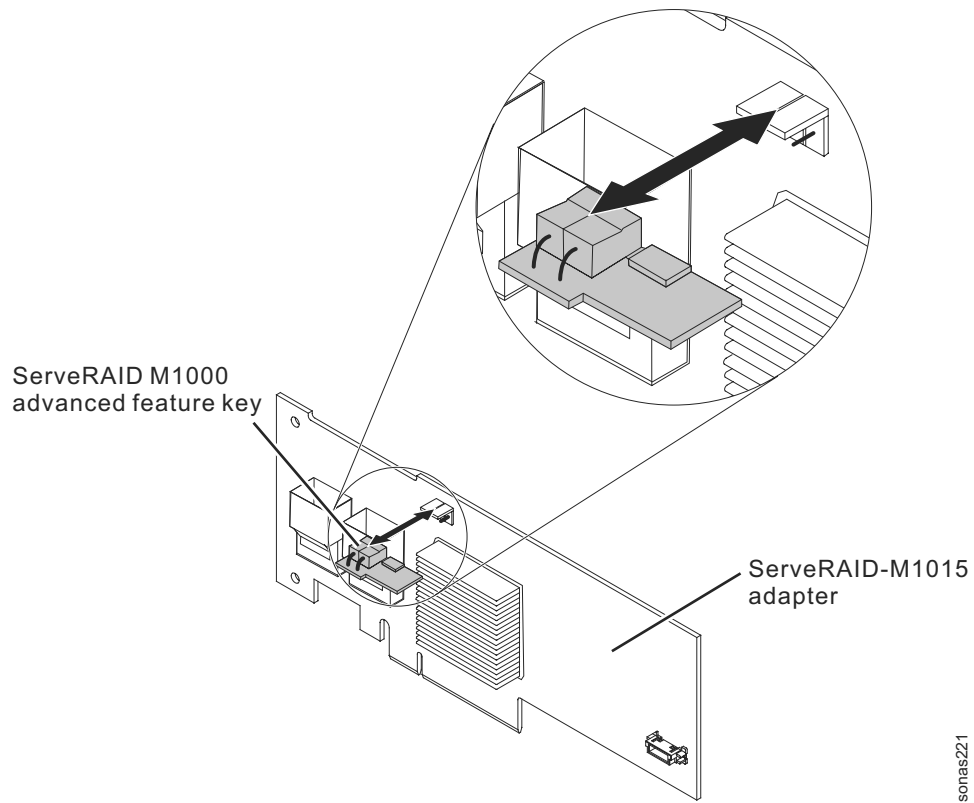
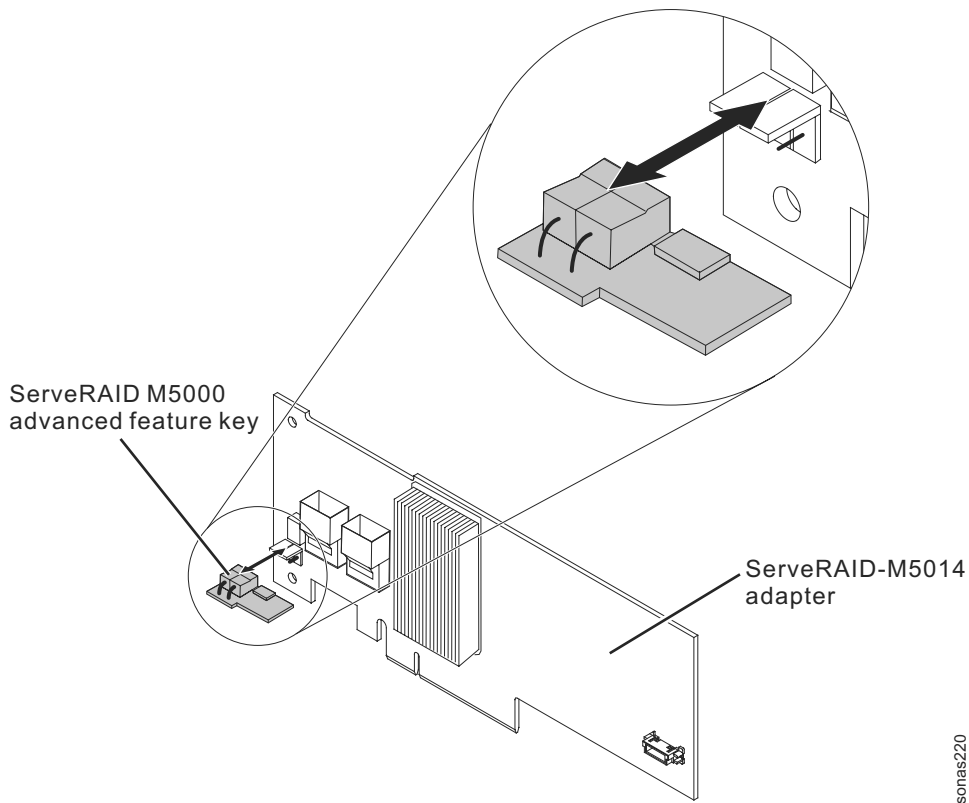

Figure 30. ServeRAID M1000 advanced feature key and M1015 adapter
Figure 31. ServeRAID M5000 advanced feature key and M5014 adapter
4. Align the feature key with the connector on the ServeRAID adapter and push it into the connector until it is firmly seated. See Figure 30 on page 123 and Figure 31 on page 124.